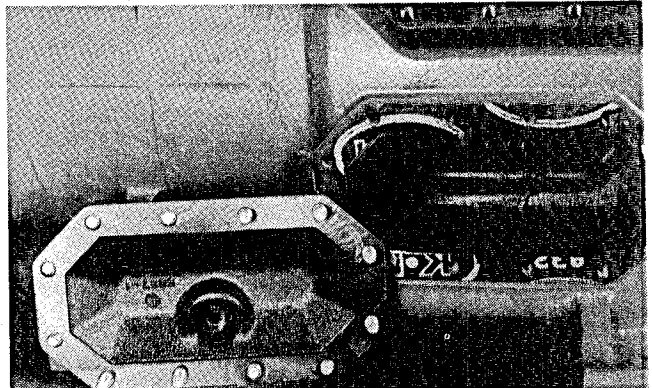

Figure 20
2. Lift cover off housing (Figure 20).